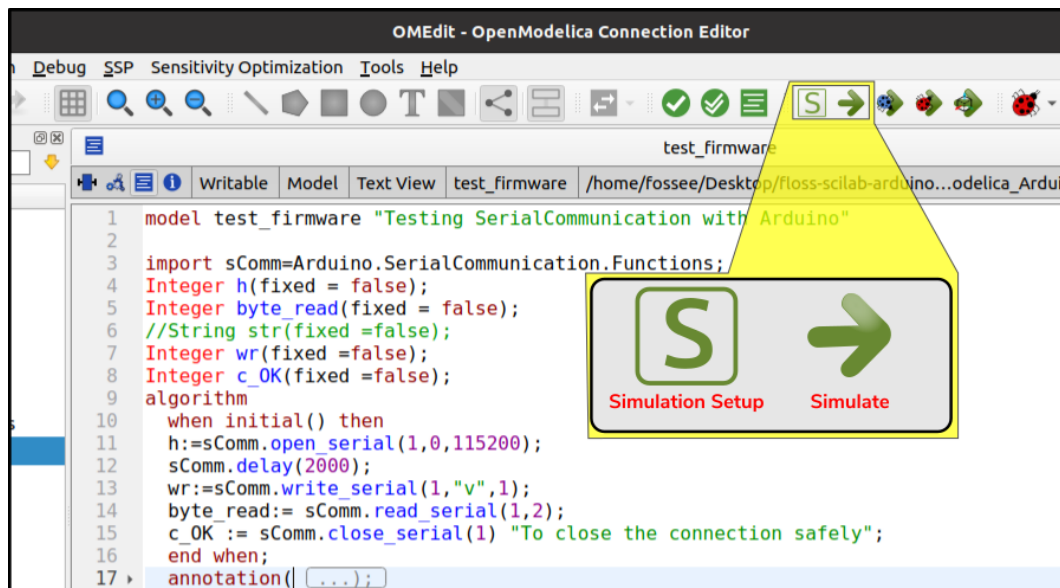
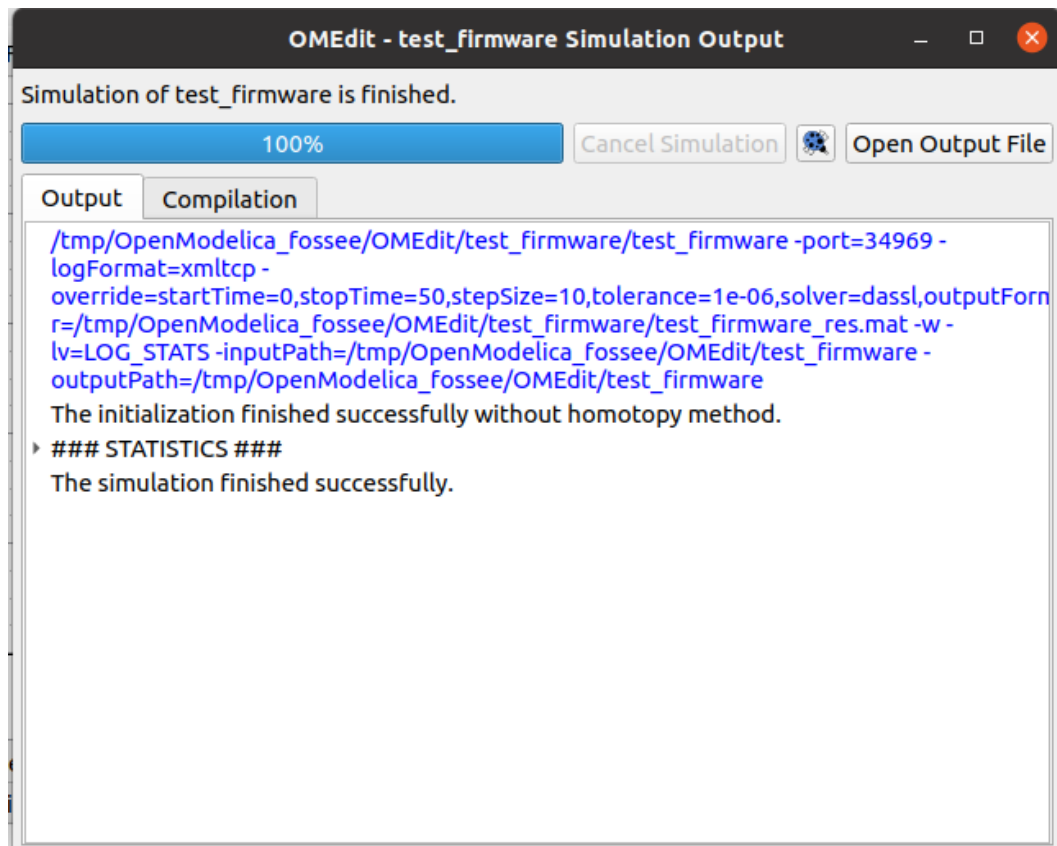

Figure 3.13: Simulating a model in OMEdit
Figure 3.14: Output window of OMEdit
Now, we will see how to simulate this model. For this, we need to ensure that OMEdit is in Modeling Perspective. Next, we will click on the green right-sided arrow, named as Simulate, as shown in Fig. 3.13. When we click on Simulate, OMEdit will first compile the model and then, it will simulate the model for the time specified in the model itself. As OMEdit provides an elegant user interface for simulating the models, it will open an output window the moment you click on Simulate. Fig. 3.14 shows the output window after the simulation of our model is finished. Also, we can observe that the OMEdit is now in Plotting Perspective.
As shown in Fig. 3.14, OMEdit displays the message that "The Simulation fin-
**OpenModelica Code 3.1** An OpenModelica code/model to check whether the firmware is properly installed or not. Available at `Origin/tools/openmodelica/windows/test_firmware.mo`, see Footnote 2 on page 2. Locate this file inside OpenModelica-Arduino toolbox, as explained in Sec. 3.2.4. Simulate this code/model by following the steps given in Sec. 3.2.3. If the simulation is successful, you should expect an output window in OMEdit as shown in Fig. 3.14.